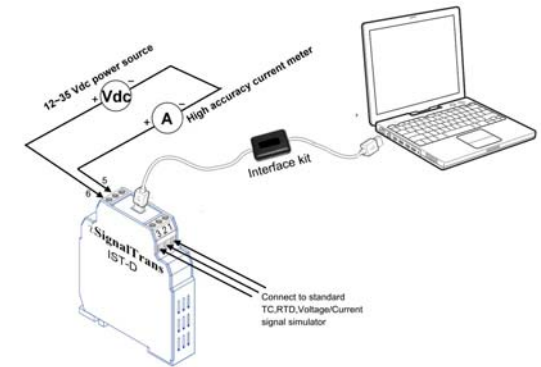

Figure 6. Calibration connection
7. **4~20mA Output Signal Calibration** : Zero and Span adjustment of output signal. A power source shoule be connected as Figure 6.